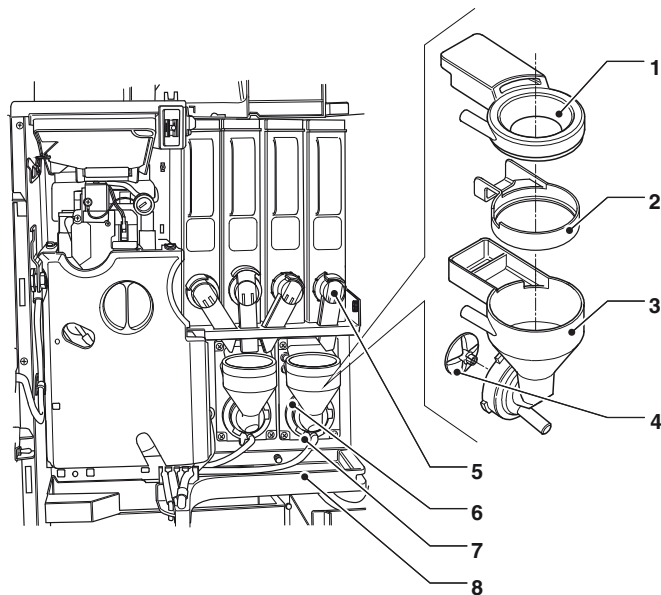

Fig. 9
- Remove (see Fig. 9) the powder funnels, the water conveyors, the powder deposit funnels and the impellers from the mixers;